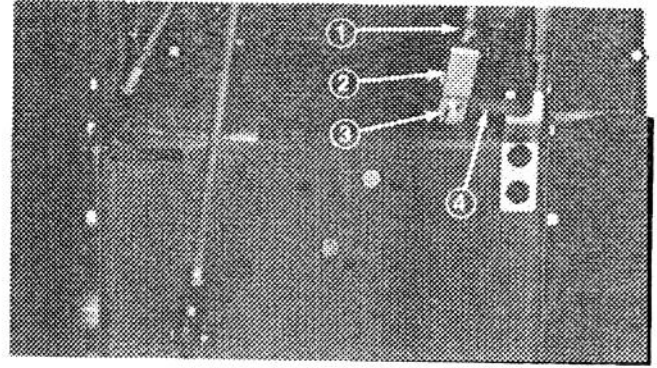

Figure 33
1. Loosen jam nut from clevis at bottom of auger drive control rod (Fig. 33). Next, remove cotter pin and clevis pin holding clevis to bent rod (Fig. 33).
2. Rotate clevis (Fig. 33) counterclockwise – out – to increase belt tension. By contrast, rotate clevis clockwise – in – to decrease belt tension.
3. Connect clevis to bent rod with clevis pin and cotter pin (Fig. 33). Next, tighten jam nut against top of clevis (Fig. 33).